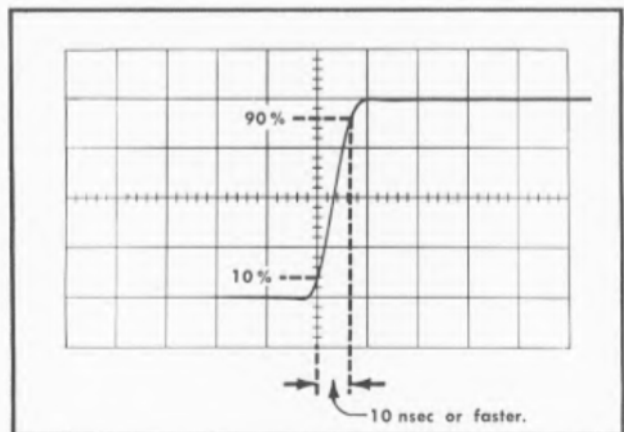

Fig. 5-20. Measuring the risetime of a normal waveform when SW1000 is actuated; sweep rate is 10 nsec/cm .
- b. Depress Transient Response Compensation Switch SW1000 (located at the bottom of the plug-in compartment rear panel). Check the risetime of the step waveform from the 10% to 90% points on the rising portion of the waveform (see Fig. 5-20). Overall risetime should not be any slower than 10 nsec.